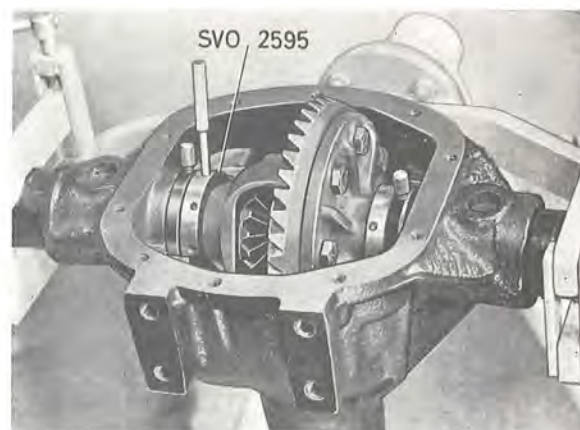

Fig. 4-158. Adjusting rings for differential
1. Lubricate the inside of the adjusting rings SVO 2595 and put them on the differential carrier. The ring with the black-oxidized adjusting ring should be placed on the crown wheel side. Also lubricate the bearing location in the carrier. Place the differential carrier and the adjusting rings in the final drive housing, see Fig. 4-158. Use the dial indicator and adjust in the rings so that the correct tooth flank clearance .13—.20 mm (.005—